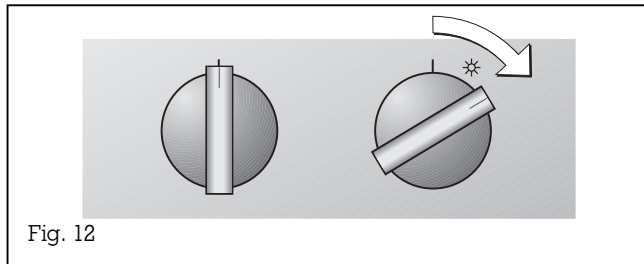

Fig. 12
- Turn the “Temperature” control knob by one latching position to the right (Fig. 12).